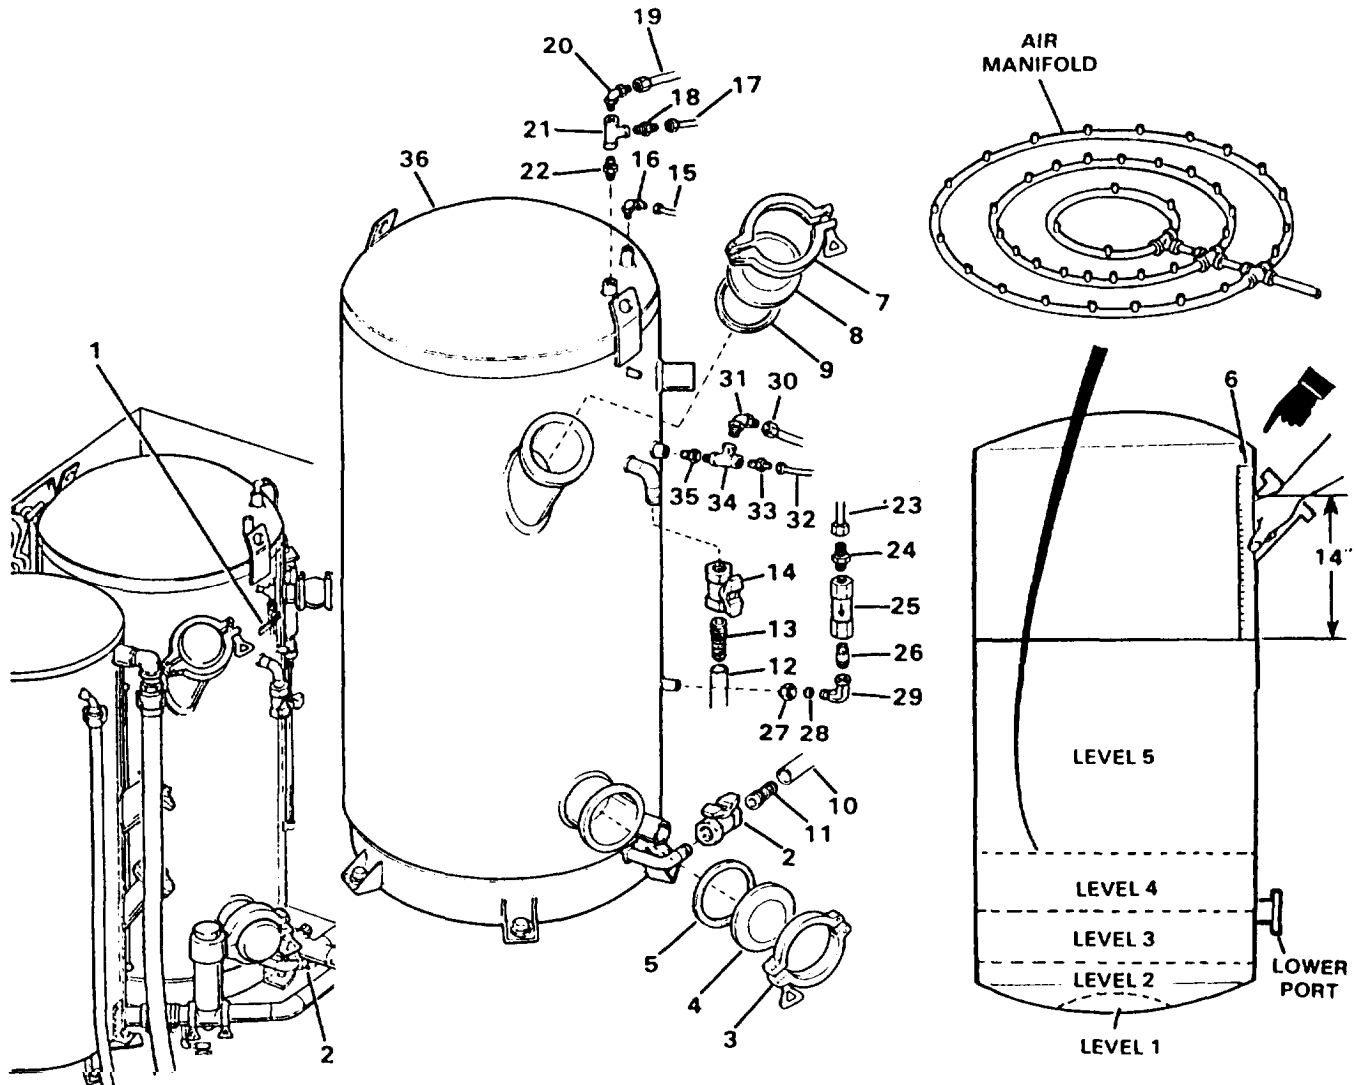

Figure 4-62. Media Filter Assembly
- a. Refer to Figure 4-62 and remove media from tank (36) as follows:
Refer to the media level diagram at the right side of Figure 4-62. Levels 1 and 2 are support gravels for the finer filter materials above. These gravels are not normally replaced. If the gravel levels 1 and 2 become plugged, notify direct support maintenance.
- (1) Remove clamp (7), cap (8) and gasket (9).
(2) Load level 3 through the top port and level it with the chemical mixing paddle or other suitable stick. Note in Figure 4-62 that the level goes about 1/2 way across the lower port. The level 3 media should be banked lower at the port to keep from running out of the port.
a. Refer to Figure 4-62 and disassemble the media filter assembly as follows:
(1) Open vent valve (1).
(2) Open drain valve (2) and drain filter.
(3) Remove clamp (3), cap (4), and gasket (5) from tank (36).